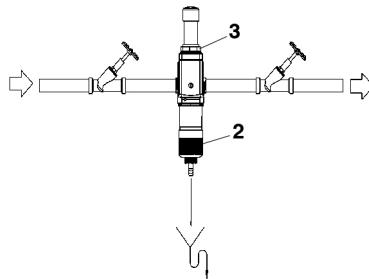

Figure 9. Cartridge exchange II
2. Turn the handwheel for backwashing (2) counterclockwise so that the pressure remaining in the device can escape (see Figure 9).
3. Unscrew the union nut (3) at the phosphate cartridge counterclockwise.